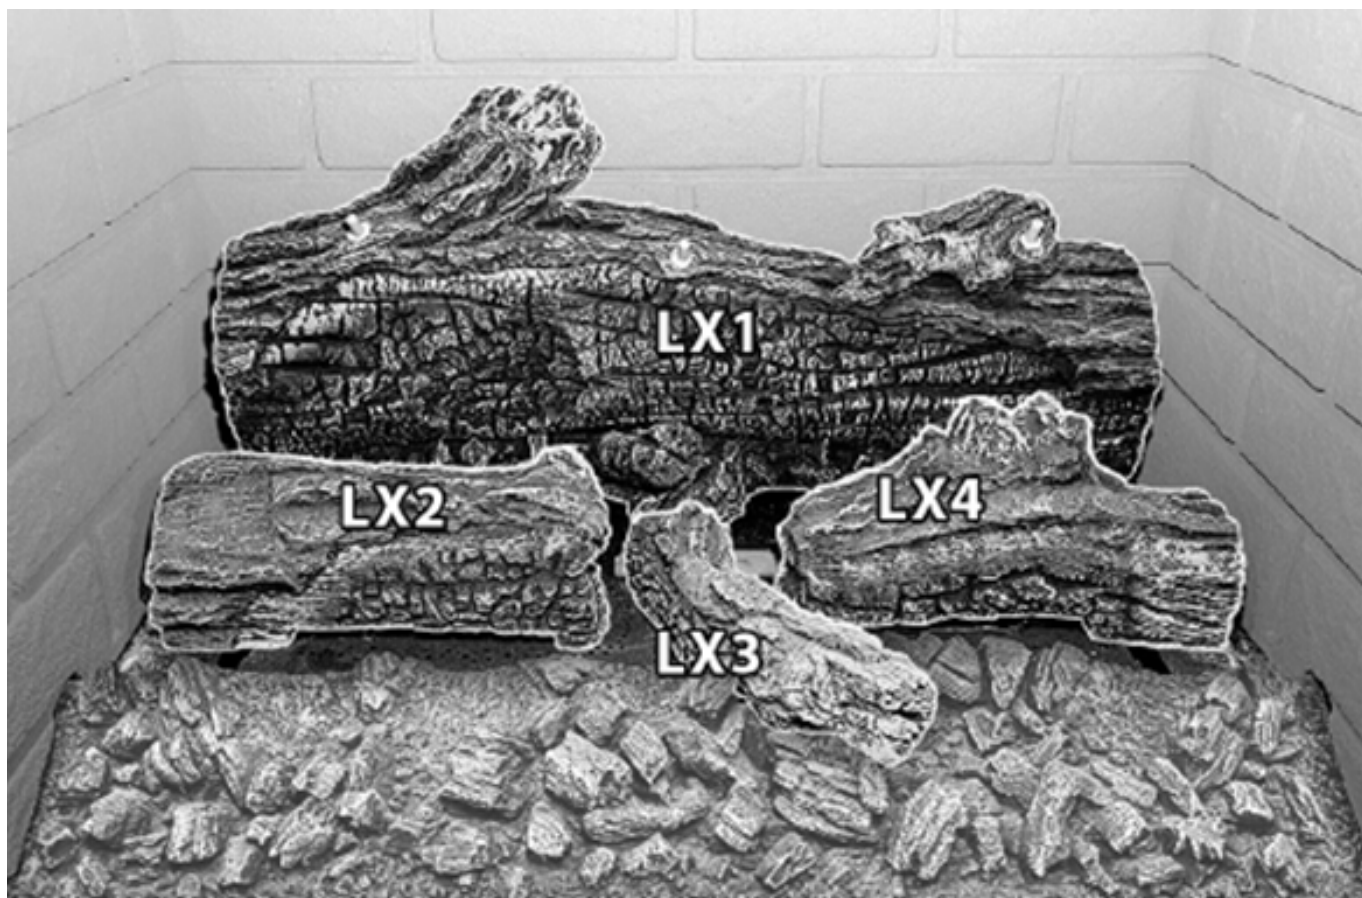

Figure 6.3 - Base Logs
1. Set log LX1 on the rear log plate, as shown in Figure 6.3.
2. Align the holes in the bottom of log LX2 with the studs on the left side of the burner and place log LX2 in to position, as shown in Figure 6.3.
3. Align log LX3 with the notch in the ash panel and place into position, as shown in Figure 6.3.
4. Align the holes in the bottom of log LX4 with the studs on the right side of the burner and place log LX4 in to position, as shown in Figure 6.3.